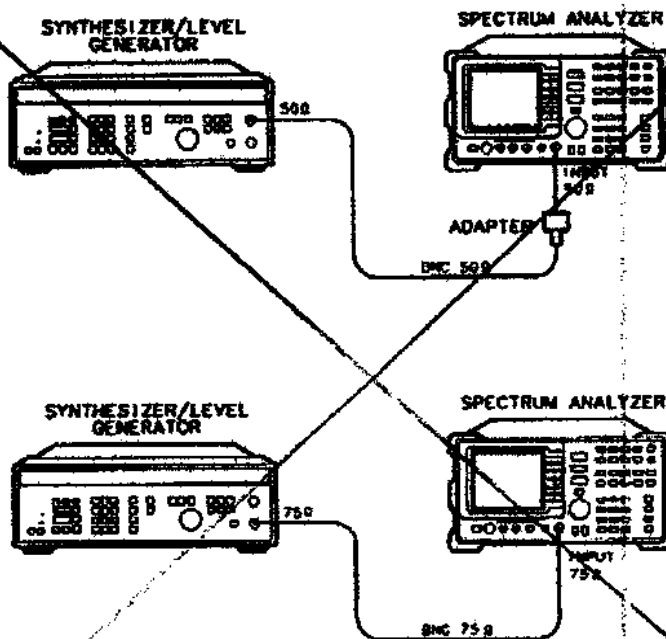

Figure 2-25. Frequency Response for 4 MHz Setup
17. Using a cable, connect the HP 3335A directly to the INPUT 50 Ω . (See Figure 2-25.)
(Option 001: Using a 75Ω cable, connect the HP 3335A from the 75Ω OUTPUT to the INPUT 75Ω. Set the HP 3335A 50-75Ω switch to the 75Ω position. See Figure 2-25.)